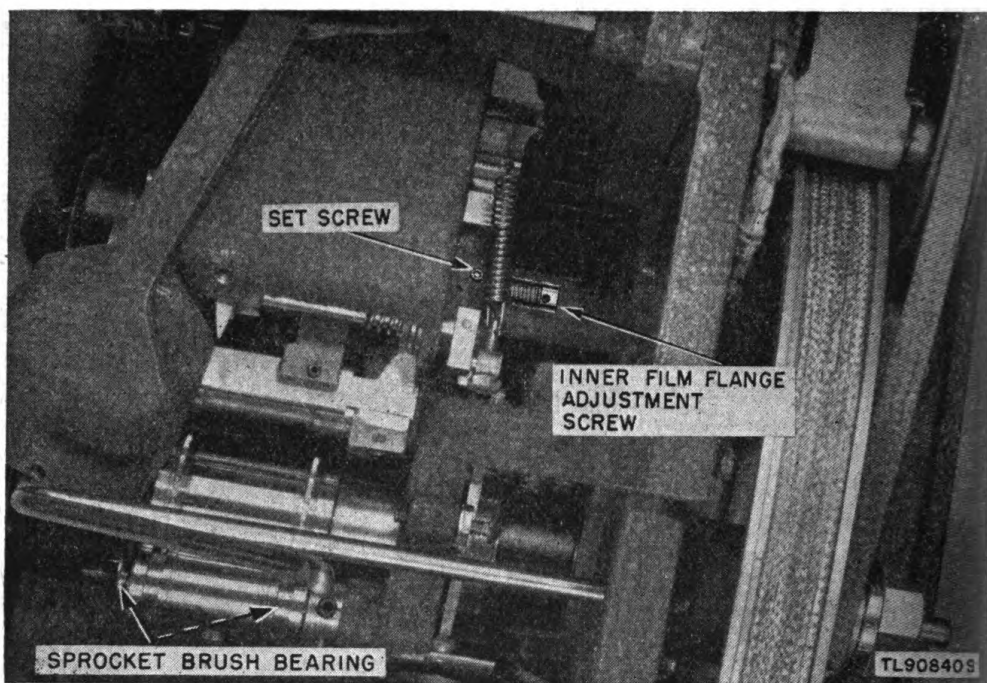

Figure 47. Inner-film-flange adjustment screws.
*b.* ADJUSTMENT OF INNER-FILM FLANGE (101). (1) Loosen the setscrew in the top of the recording bracket (fig. 47).
(2) Using the small Allen wrench, turn the adjusting screw counterclockwise until the inner flange stops turning with the film running over the recording drum.
(3) Turn the adjusting screw clockwise until the flange starts to turn.
(4) Lock the adjustment by turning down the setscrew.
*Note.* The inner-film flange is held in position against the rear drum bearing by a spring plunger (94). The spring plunger is mounted in an adjusting screw (95) threaded into the recording bracket. This is set at the factory to a 960 to 1,000 gram pressure.
*c.* ADJUSTMENT OF OUTER-FILM FLANGE (100). (1) The outer spring flange is held in engagement with the outer edge of the film by a spring (99). This spring is backed up by an adjusting nut (98) threaded on the outer end of the film-flange shaft (93). This flange is set to a pressure of 200 to 250 grams. If this pressure is too great, it will cause the film to buckle, resulting in film scoring. If the pressure is not great enough, the film will not be held in position during recording. Be careful that the adjusting nut (98) is not backed out beyond the end of the film-flange shaft, because it would then interfere with the front casting